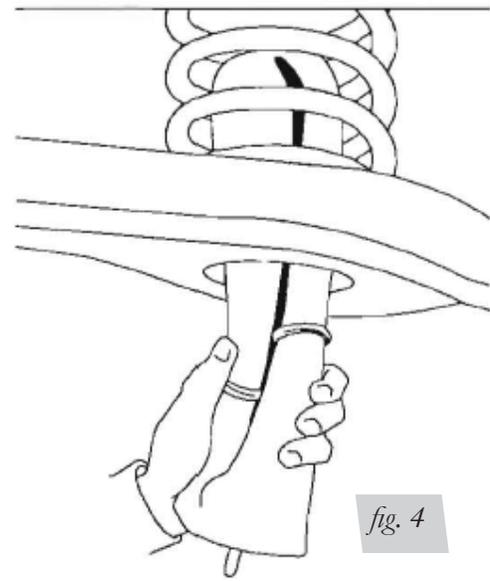

fig. 4
5. Push the cylinder up within the coil by hand or with a blunt instrument such as a spoon-type tire iron (Figure 4).